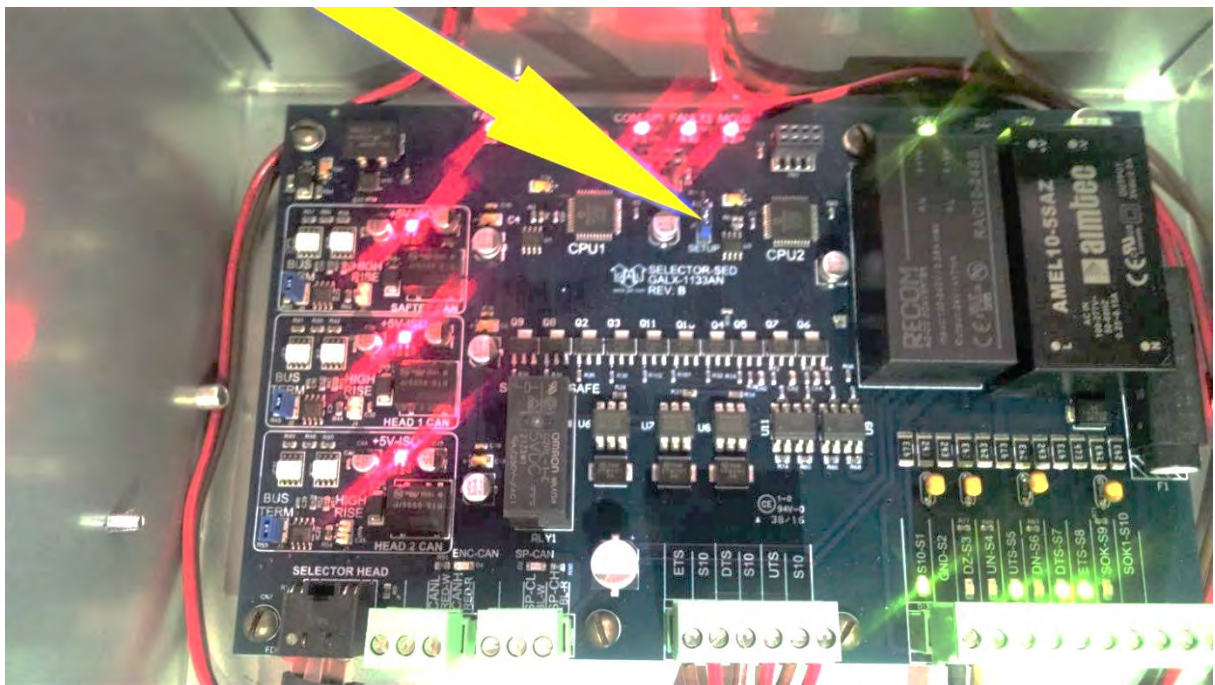

Figure 2-20: APS Selector Board Setup Jumper
- Move the jumper on the GALX-1133AN selector board to the SETUP position. See Figure 2-20.